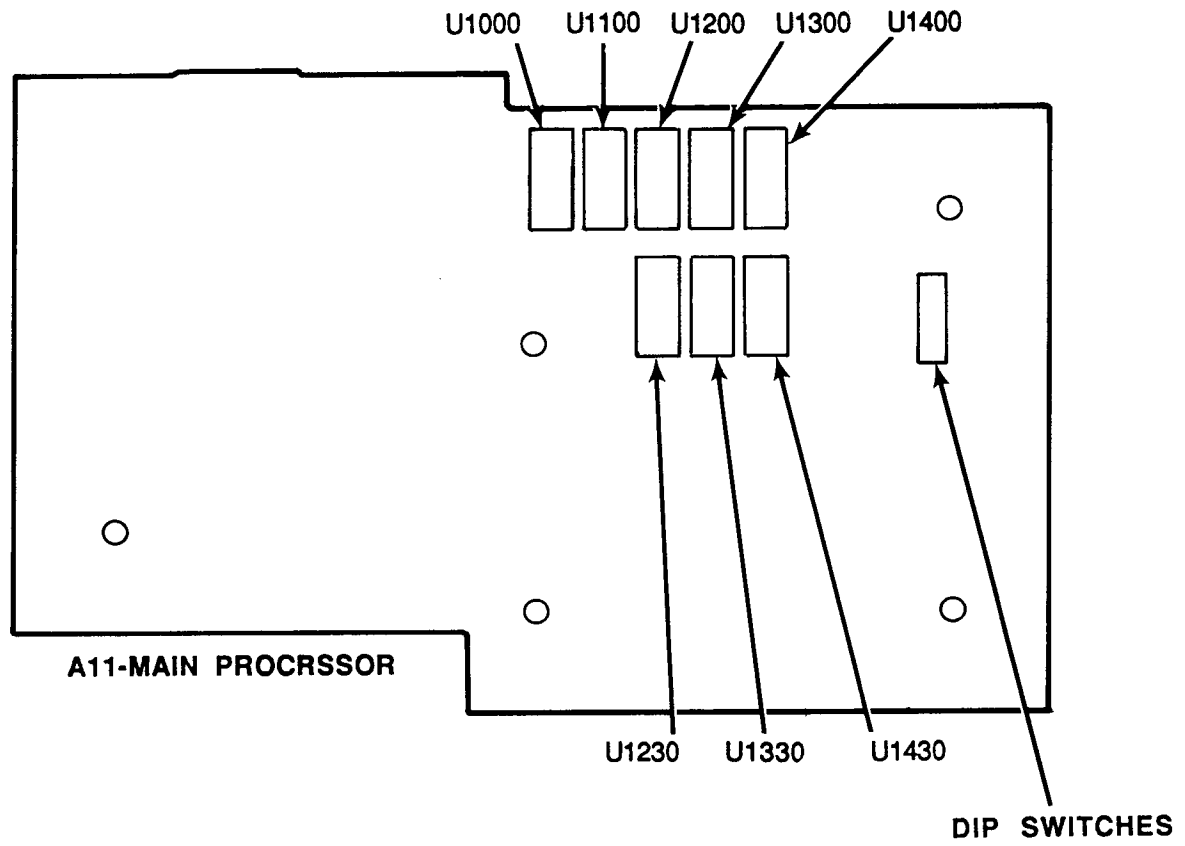

Figure 2. - EPROM locations. Main Processor ckt bd A11.
Refer to Figure 2, while performing steps 1 through 9, in this section.
- () 2. Replace U1000, U1100, U1200, U1230, U1300, U1330, U1400, and U1430 with the new EPROMs that are provided in this kit. Refer to Figure 2, for EPROM locations.